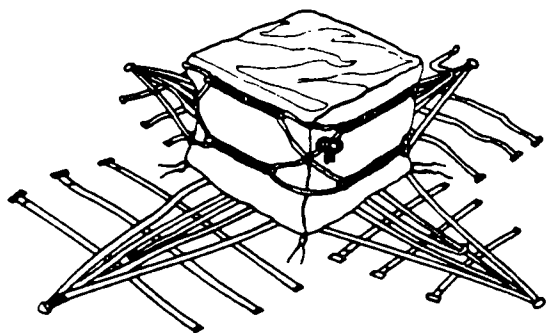

Figure 8-3. Securing the Cover with Lacing Cord
Step 5 - Using lacing cord or Type III nylon cord, secure the cover at each corner by running the cord through the lacing loops in a figure-eight design (Figure 8-3). Tie the cord ends with a bow knot and secure. The purpose of the cord is to tighten the cover around the load so that small items cannot fall out.